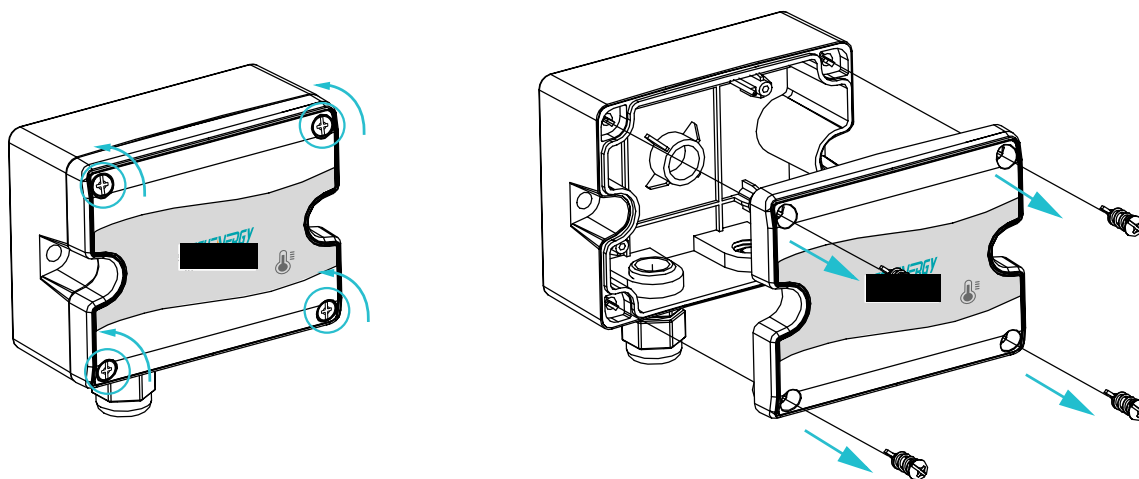

Figure 5 AcuTEMS IM Removing Front Cover
**NOTE:** Exercise caution to not over-rotate the screws, which could damage the enclosure. Refer to Figure 5 for details.